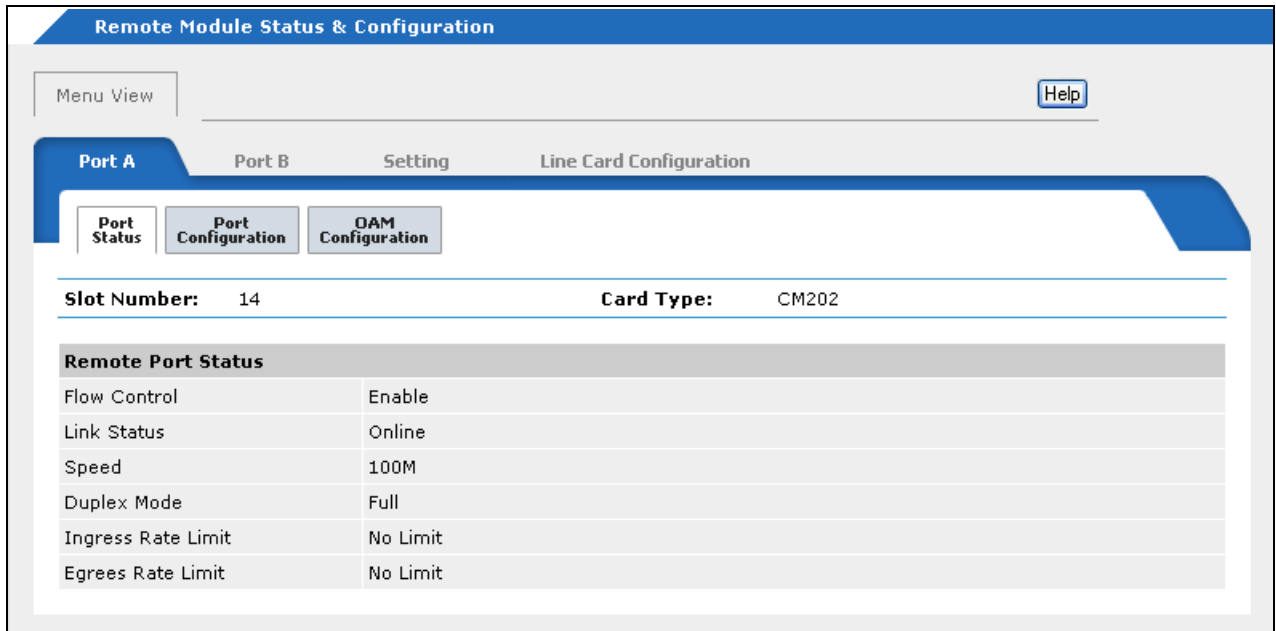

Figure 94. Remote Module Status & Configuration Page
2. To configure a remote line card, click its model name in the CardTypeVer column to display the Remote Module Status & Configuration page in Figure 94.